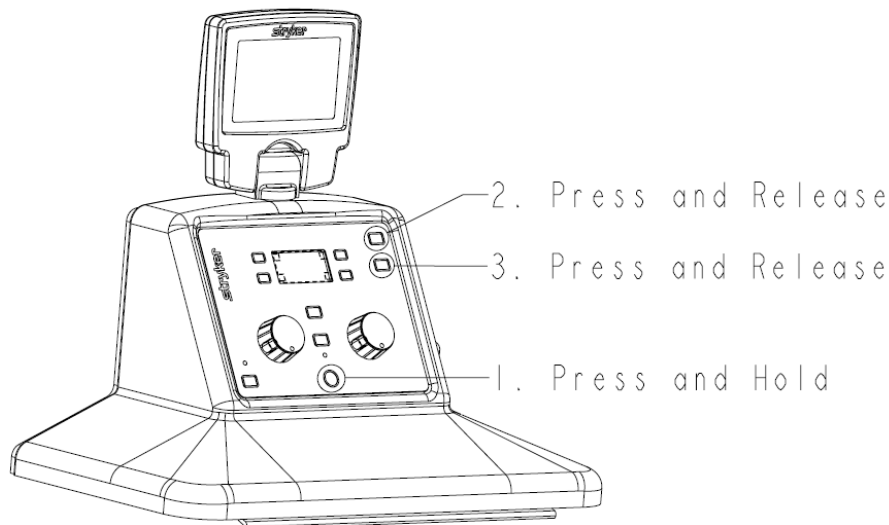

Figure 5: Access the Technician Menu
2. To access the technician menu from the system settings menu, hold down the Vacuum System power button, then press and release the IV Pole UP button, and finally press and release the IV Pole DOWN button (see figure 5).